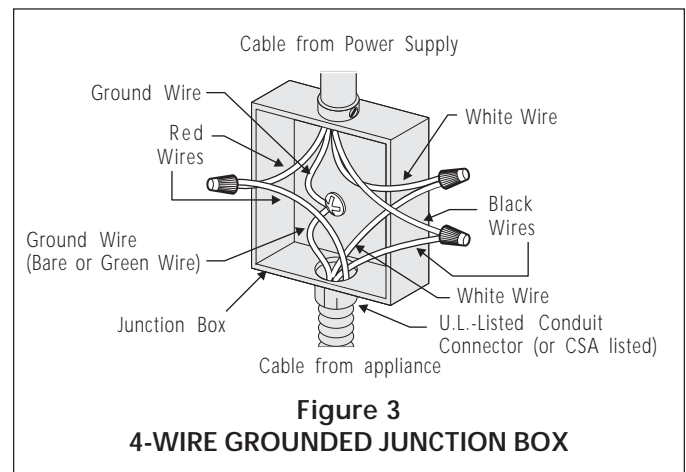

Figure 3
⚠ WARNING Frame grounded through the neutral. If used in a mobile home, new branch circuit (1996 NEC) recreational vehicles or where local codes do not permit grounding through neutral see figure 3.
2. If used in mobile homes or if local codes DO NOT permit connection of the frame grounding conductor to the neutral (white) wire, separate the white and bare copper ground wires that extend out of the end of the supply cable of the appliance. Connect the white wire from supply cable to the neutral white wire in the junction box. Connect the black and red wires from the supply cable to the matching color wires in the junction box. The bare wire must now be used to ground the appliance in accordance with local electrical codes. Connect the bare copper ground wire to the grounded lead in the service panel. DO NOT ground to a gas supply pipe. DO NOT connect to electrical power supply until appliance is permanently grounded. Connect the ground wire before turning on the power (figure 3).